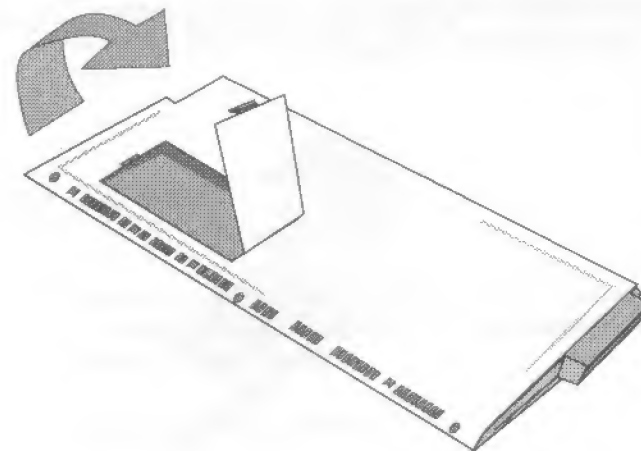

Figure 1.1 — Removing the trap-door cover
2. Remove the trap-door cover by inserting a coin in the slot at one end, prying the cover up and swinging it away (see Figure 1.1).